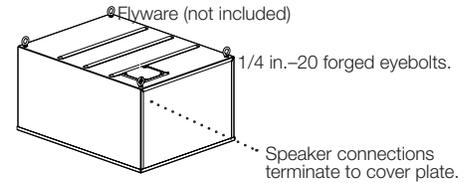

Fig. 2: Suspended into Rigid or Tile Ceiling
- 2). Suspended into Rigid or Tile Ceiling (Fig. 2):** Hang the system using the installed forged eyebolts and flyware (by others) so that it is suspended into a rigid or tile ceiling.